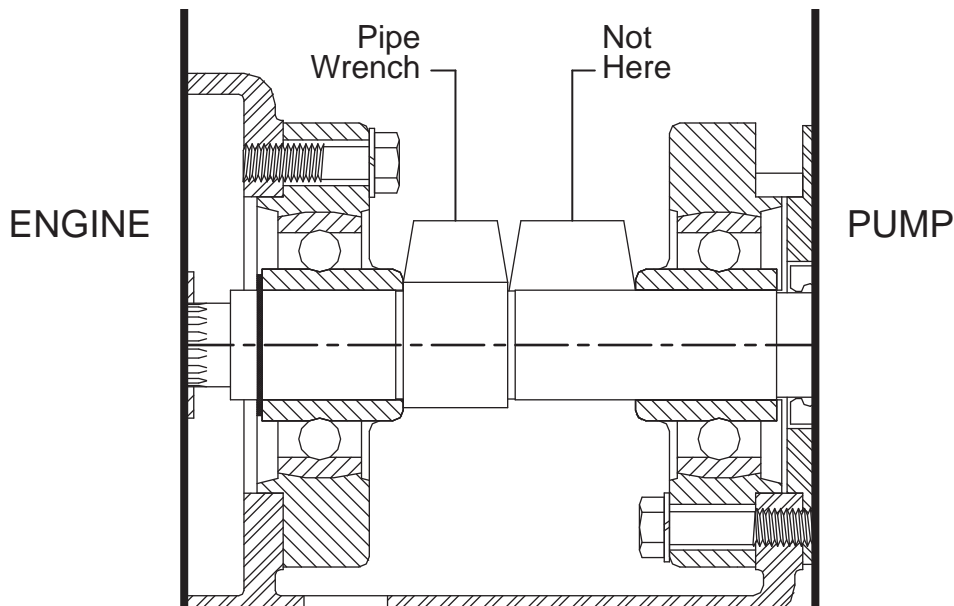

Figure 8 – Pump Impeller Removal
3. To remove pump impeller, take the pump impeller wrench, which is stored in the tool box, and position it so that the hole is aligned with any of the eight tapped holes in the front of the pump casing (4). The 90-degree leg of the pump impeller wrench should face inward, toward the pump impeller and be positioned between any two of the pump impeller fins. Bolt the wrench securely in place with one of the pump suction cover bolts (5B). Using a pipe wrench on the pump shaft (9), unscrew the pump impeller, turning the pump shaft in a clockwise direction. See Figure 8 for pipe wrench placement. Be careful not to unscrew the pump impeller too far before removing the impeller wrench.